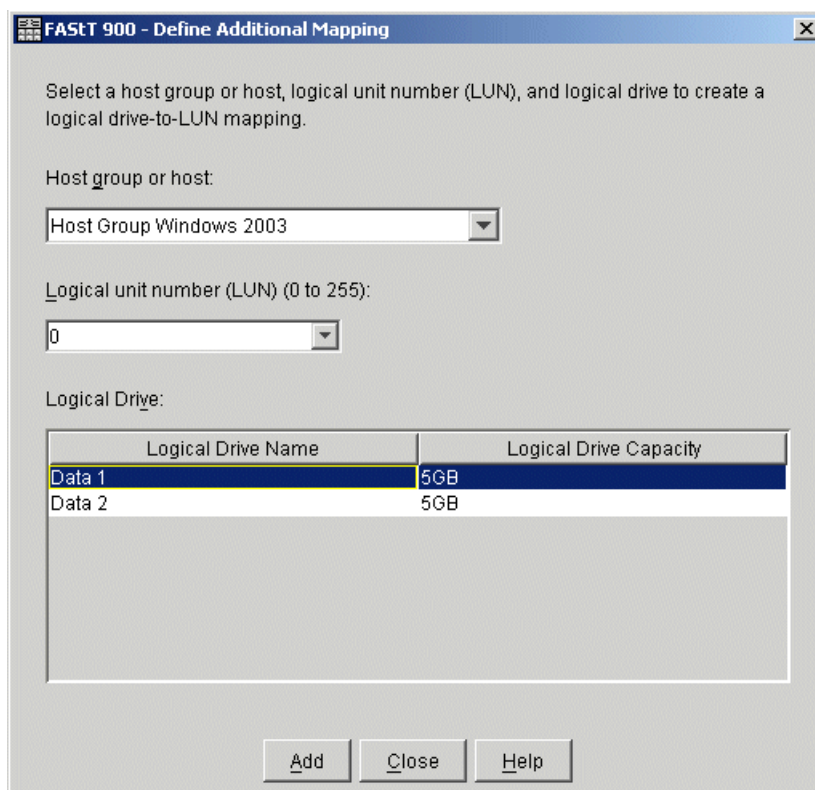

Figure 5-40 Define Additional Mapping
10. In the Define Additional Mapping dialog, select the logical drive you want to map to this host group and assign the correct LUN number (Figure 5-40), according to the mapping table (Table 5-1 on page 141).